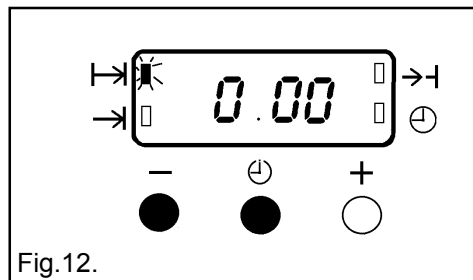

Fig.12.
- i) To cancel an automatic programme press the Selector Control button until the 'Cook Time' indicator () neon flashes. Press the decrease control (-) until the display reads 0.00 as Fig. 12.